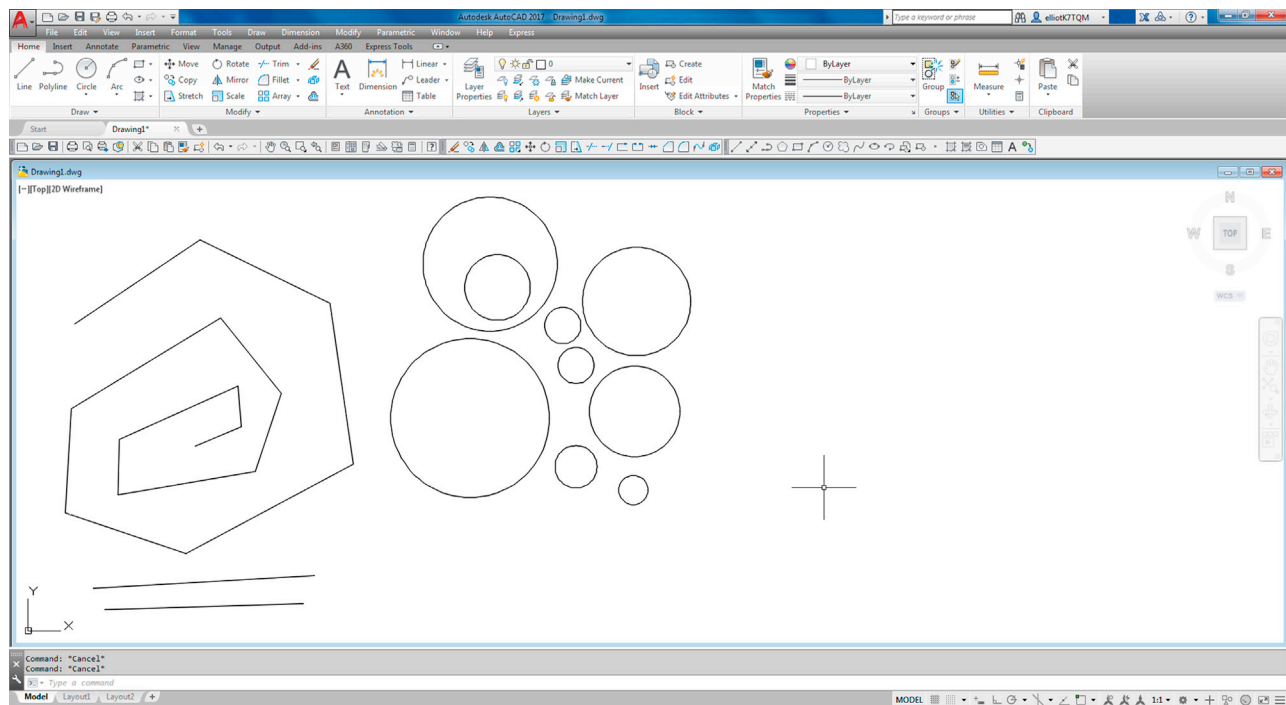

FIGURE 1.13 Circles drawn.
Step 3. Left-click to finish the circle command. Repeat Steps 1 through 3 several times, and your screen should look like Fig. 1.13.